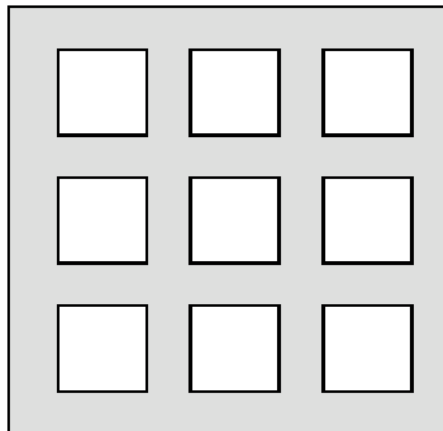

Figure 13. Solder Paste Application on Exposed Pad
3. For the PCB thermal pad, solder paste should be printed on the PCB by designing a stencil with an array of smaller openings that sum to 50% of the QFN exposed pad area. Solder paste should be applied through an array of squares (or circles) as shown in Figure 13.